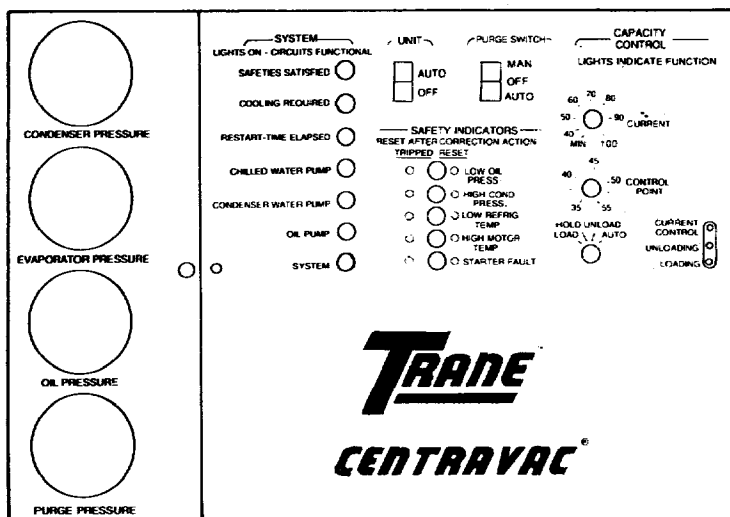

FIGURE 11 - CVHE Unit Control Panel
Safety and operating controls are housed in the CenTraVac unit control panel. Panel functions are divided into four categories, as indicated by the physical layout of the panel; see Figure 11.
3. Five safety indicators are provided in the center of the control panel, directly below the unit AUTO/OFF and purge MAN/OFF/AUTO switches; see Figure 11. These circuit interrupters are used to open the control circuit since they will hold their position in the event of a power interruption. This means that a power failure does NOT require manual resetting of all safeties.